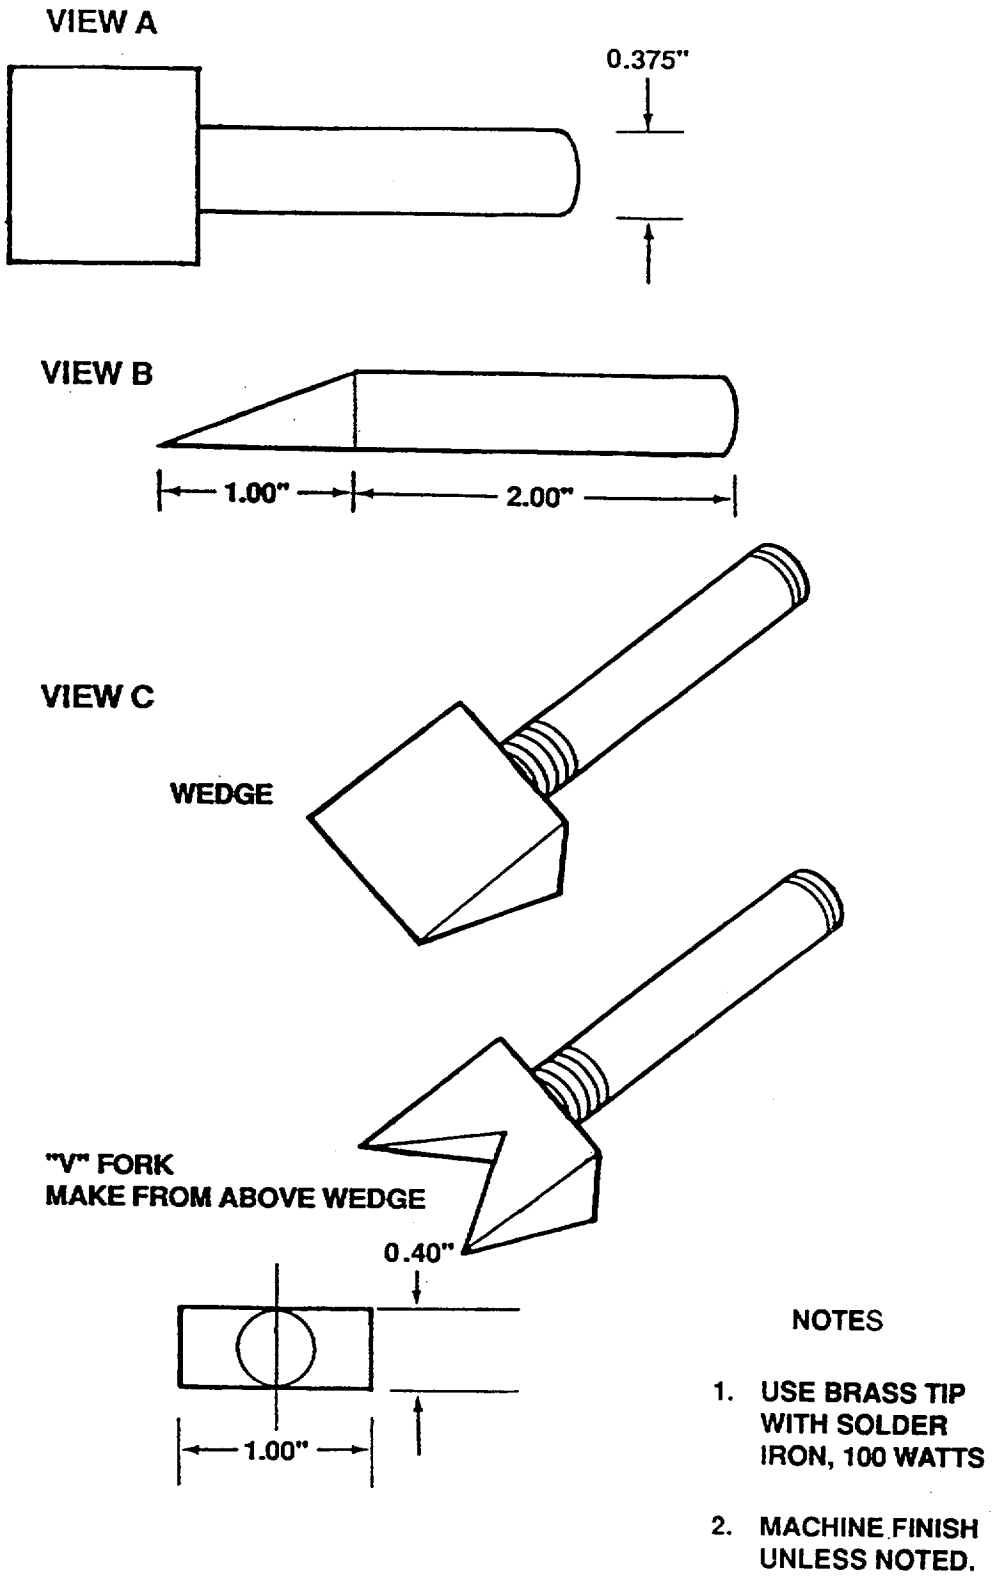

Figure 4-1. Brass Tip Solder Iron
(4) Using a 100 watt hot soldering iron with a modified tip per Figure 4-1, cut the tape by carefully moving the hot iron along the span length of the blade. The soldering iron and tip should be of the type commonly used in roof flashing and stain glass work. No specific brand is required as long as it is a 100 watt iron.
If the plastic scraper is not available through the supply system, it can be either procured locally or locally manufactured. Locally manufacture using a piece of plexiglass with a blade width of approximately one inch. Sharpen the blade to an angled point of approximately 30 degrees (chisel point) (See View B, Figure 4-1).
(1) Saturate coating surface with methyl-ethyl-ketone (MEK) and scrape coating off with a plastic scraper while soft. (See view B of figure 4-1 for local manufacturing of scraper.)
(2) Make final surface wipe with a clean cloth dampened with MEK.
(1) TASK L-100 is unaffected from the use of chemical solutions and abrasive cleaning techniques. The recommended removal procedure is by scraping in a parallel direction along the surface of the blade. Use of a plastic scraper with a sharp edge is highly recommended for this procedure. (See view B, figure 4-1 for local manufacturing of scraper.)